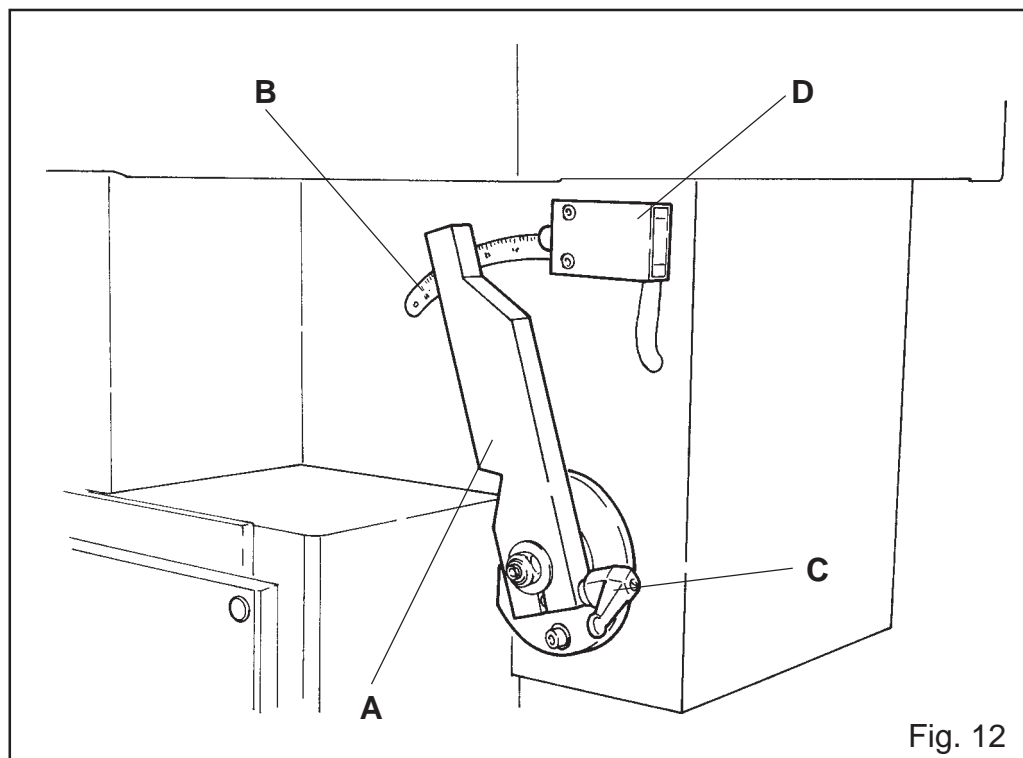

Fig. 12
- Position pointer A (fig.12) (to the right of the machine) in correspondence to the desired measure (which will correspond to the height of the profile to be cut) that you read on the metric ruler B (fig.12).
- To position pointer A (fig.12), release handle C (fig.12), position and then block it again.
N.B. The pointer, when turning, will run into micro D (fig.12) which once pressed, will make the blade return.